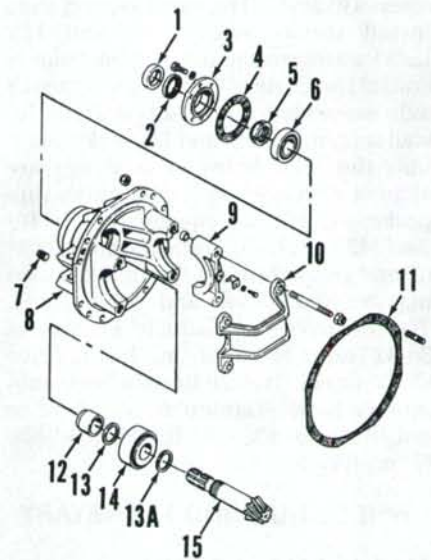
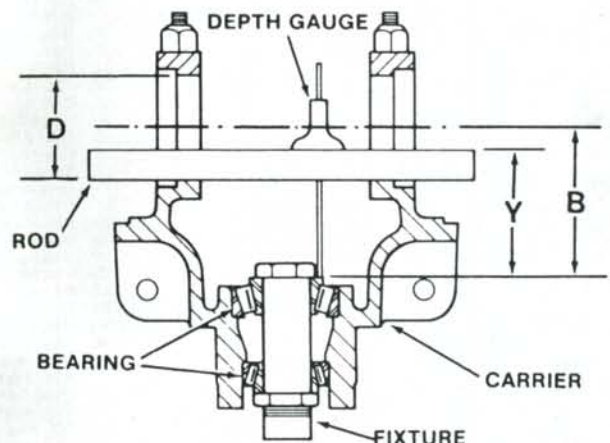

Fig. 12—View of bevel drive pinion and component parts removed from carrier (8).
Fig. 14—Diagram showing method of securing pinion bearings in carrier to allow depth gage measurement to be taken. Refer to text.
Place assembly on a bench and remove yoke from pinion shaft. Place matching marks on carrier (8—Fig. 12) and bearing support caps (9). Remove both adjusting ring locks. Remove retaining nuts and lift off support bracket (10), bearing support caps (9) and adjusting rings (1 and 17—Fig. 13). Remove differential and ring gear assembly and set aside for later disassembly.
Unbolt and remove seal retainer (3—Fig. 12) with seals (1 and 2) and gasket (4). Remove locknut (5), pull bevel pinion shaft out and catch bearing cone (6). Remove spacer (12), first shim (13), bearing cone (14) and second shim (13A) from bevel pinion shaft (15). Use a slide hammer puller and remove bearing cups (6 and 14).
dimension (D—Fig. 14). Install pinion bearing cones and using a fixture as shown in Fig. 14 or a bolt and washers, tighten nut to hold bearings tight in position. Place a 25 mm diameter rod having a cross hole drilled through it across bearing bore as shown in Fig. 14. Using a depth gage, measure from top of rod to face of inner bearing cone and record measurement. This is dimension (Y—Fig. 14). Subtract 25 mm (diameter of rod) from measurement of depth gage (Y). Add this to one-half the diameter of carrier bearing bore (D). This will be dimension (B). Then, subtract dimension etched on pinion shaft gear end from (B) if it is a minus (-) dimension or add if it is a plus (+) dimension (this dimension is in millimeters), for result. This dimension will be correct shim thickness to install between bearing cone (14—Fig. 12) and pinion shaft gear (15) for correct pinion shaft protrusion. Remove bearing cones from carrier.
When reassembling, install disc carrier rings, aligning the set screw holes. Install set screws and tighten to a torque of 15 ft.-lbs. (20 N · m). Apply one or two drops of Loctite 290 in set screw holes after set screws are tightened. Measure thickness of each friction disc and renew any measuring less than 0.076 inch (1.77 mm). Measure total thickness of friction discs (9 and 10) for each side. Add correct spacer (11) to give a total thickness of 0.602-0.614 inch (15.3-15.6 mm) for each side. Apply a coating of grease to spacers and friction discs to hold them together on side gears during assembly. Install side gear with spacer and friction discs in each differential case half. Install cross pins with differential pinions and thrust washers on one case half, then install second case half, aligning match marks. If necessary, heat ring gear to a maximum of 400°-450° F (204°-232° C) and install over dowel pins. Install lockplates and cap screws and tighten cap screws to a torque of 88 ft.-lbs. (119 N · m). Bend lockplates up against cap screw heads. Heat carrier bearing cones (2) to 250° F (120° C) and install on differential case. Install bearing cups on cones and place differential in position in carrier. Install bearing support caps (9—Fig. 12) aligning match marks on carrier and caps. Install support bracket (10), install retaining nuts and tighten nuts lightly. Make certain there is some clearance between ring gear and pinion. Install bearing adjusting rings (1 and 17—Fig. 13) and turn them in against carrier bearings. Tighten retaining nuts on support bracket to 442 ft.-lbs. (599 N · m) torque.
Use new gasket (11—Fig. 12) and install assembly in axle housing. Tighten retaining nuts to a torque of 144 ft.lbs. (195 N · m).